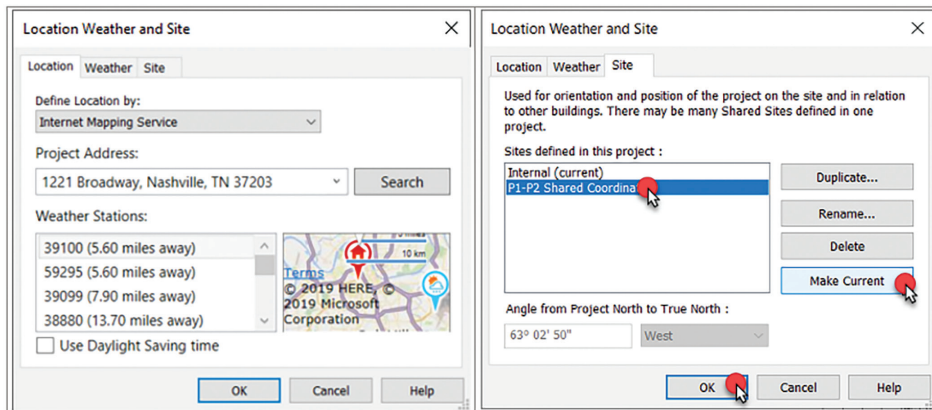

Figure 5
11. From the “manage” tab, select “location” and fill in the project address. Then, select the “site” tab and pick the name that corresponds with the XML file and make current (Figure 5).